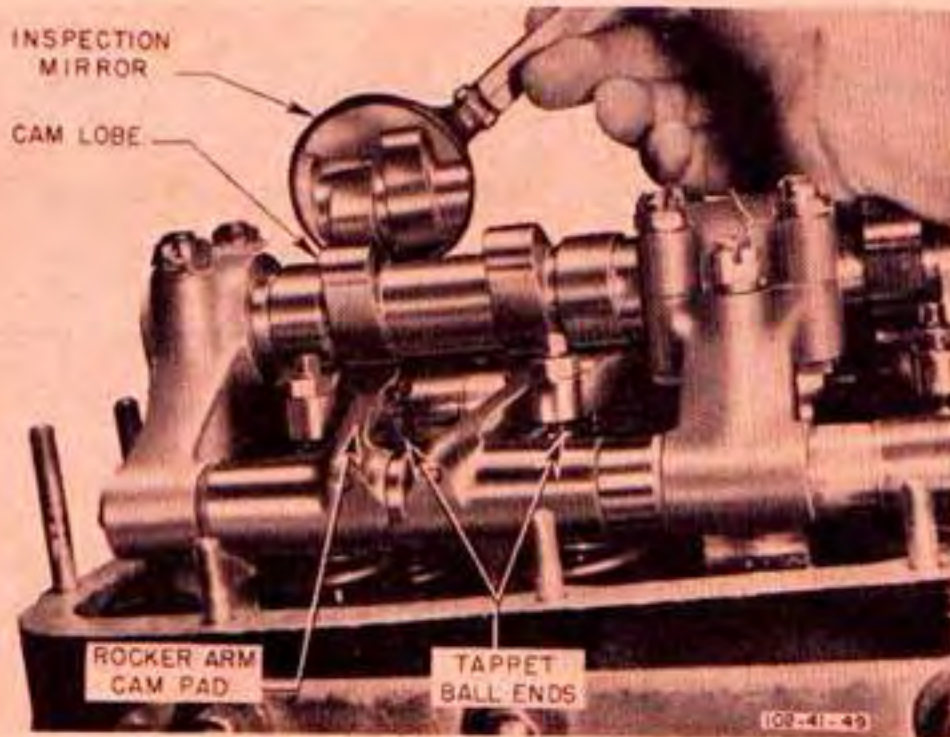

Figure 169—Inspecting Valve Mechanism for Wear
- (3) If the clearance of any exhaust valve is more than .025 inch or .020 inch for intake valves, inspect ball end of tappet and face of related rocker arm cam pad for excessive wear. (See figure 169.) Replace tappet if pitted, rough, or worn. If chromium plating on rocker arm cam pad is flaked or worn through, install new rocker and inspect related cam on camshaft for "pick-up" metal, which should be removed with a fine stone.